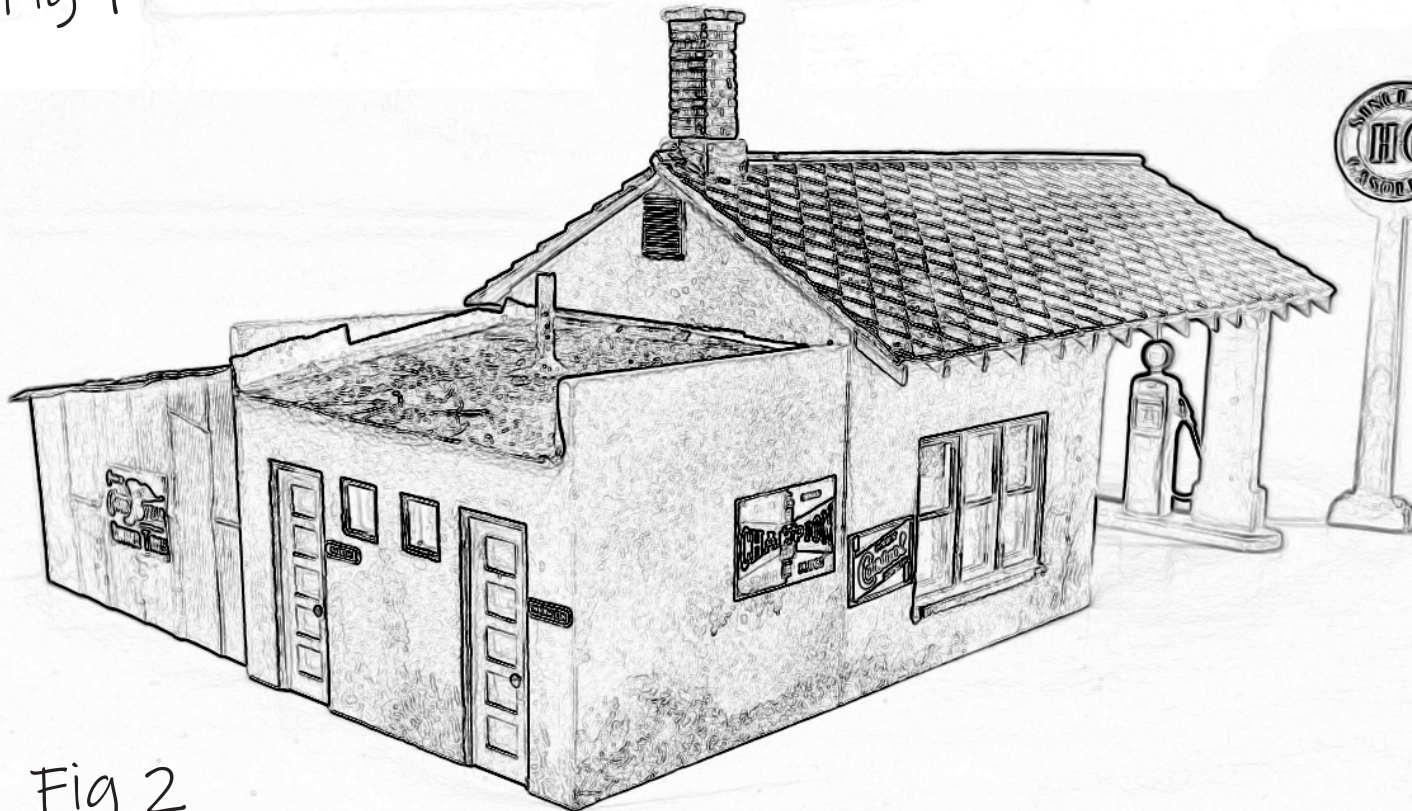

Fig 2
2. The Roof. Lightly sand the four edges of each roof section to square them up. Place them shingle side down on a flat surface. **NOTE:** Make sure the shingles are running the correct way and the tops of the roof halves are butted against each other. Place a small piece of tape across the joint in several places. This will help you place the roof sections on top of the building so that you can glue them in place. Place the roof on the building allowing for a small overhang at the rear of the main building. (Fig 2) The roof pieces should leave a valley along the ridge that you will glue a strip of 3/32" square lumber into to create a roof ridge. Tack the roof pieces in place when you are satisfied with the placement. Finish glueing all around the joints. Cut the rafter ends and two rafters out of the laser cut sheet. **TIP:** You may want to paint the entire sheet before you cut everything out.